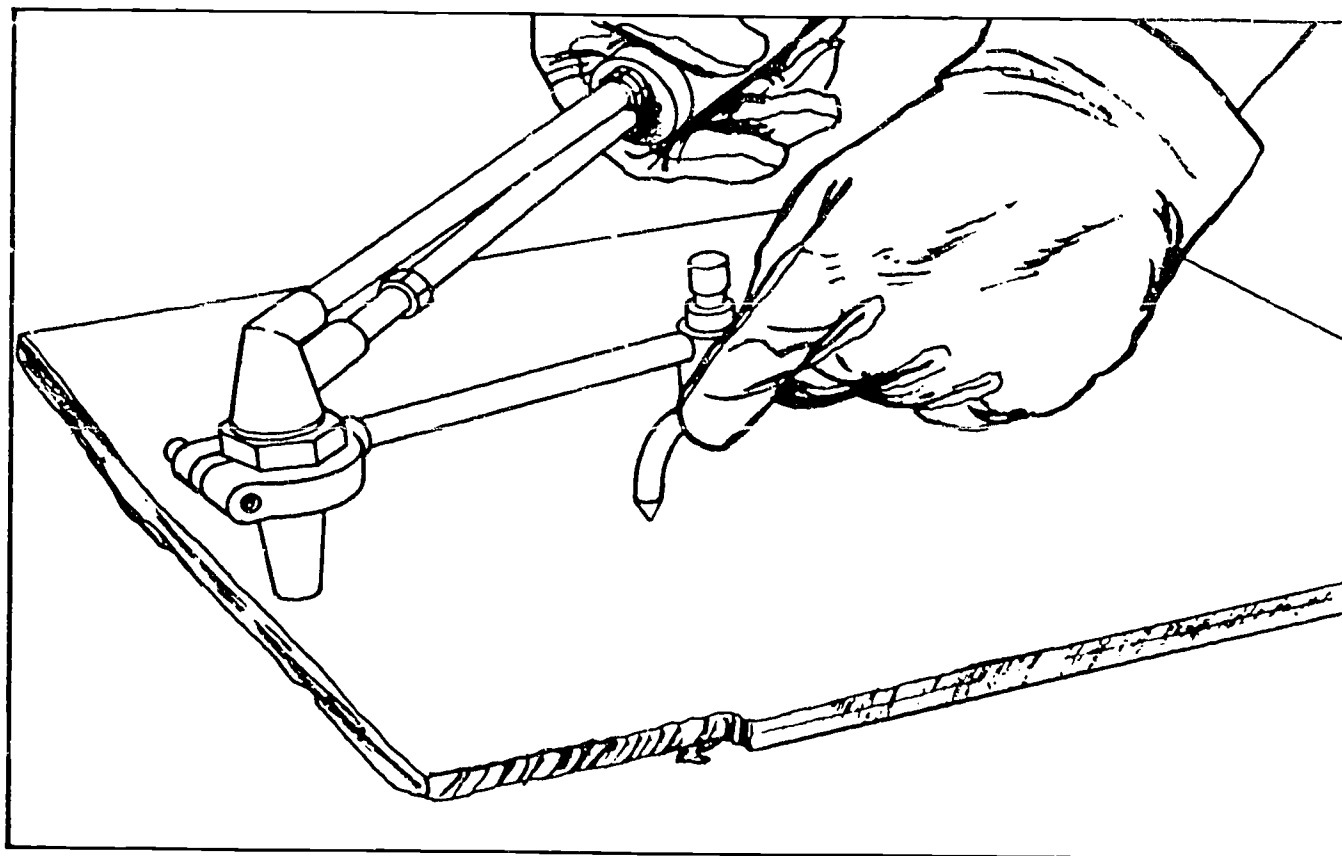

Figure 5-12. Using a circle cutter.
**Circular Cutting.** Circular cutting with a hand cutting torch is done with the circular cutting attachment shown in figure 5-12. This attachment is a rod with a clamp attached to one end. The clamp fits the torch head. You can set the adjustable center point on the bar to the desired radius. When you start the cutaway from the edge of the metal, drill or burn a small hole through the metal in the scrap portion a short distance from the circular outline. Start the cut from the edge of this hole.